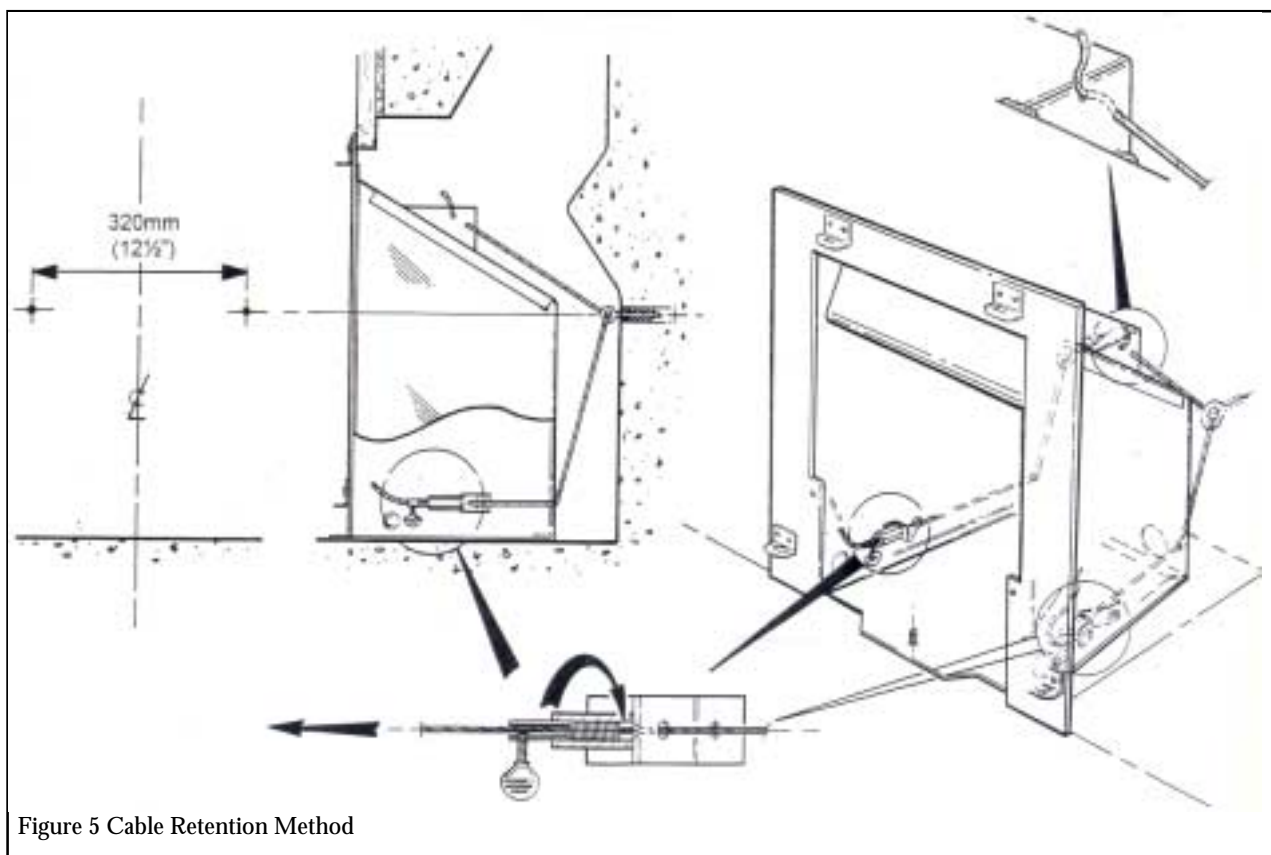

Figure 5 Cable Retention Method
**Cable Retention:** Cables and eyebolts are supplied for the retention of the appliance. Ensure that the internal fireplace components are sufficiently sound to take the eyebolts and wall plugs. Drill two holes in the rear wall of the fireplace for the eyebolt plugs using a No.10 masonry drill. The nominal position of the holes should be as shown in figure 5. The holes should be equidistant each side of the centre line of the fireplace to ensure that the appliance finishes centrally in the opening when tension is applied to the cables.
The convection box has two holes on each end of the debris deflector (see figure 5) Insert one end of each cable (one cable each side) from the back through the lower of the two holes and return the end through the upper of the holes as shown in figure 5c. Give the cables a pull so that they grip against the debris deflector flanges. **On no account should plastic wall plugs be used.**
Thread the cables through the eyebolts in the rear wall. Return the cables through the holes near the bottom of the convection box back panel and through the "V" shaped brackets near the bottom front sides of the convection box (see figure 5).
Pull each cable taut. Push the cable retainers hard up against the "V" brackets. Tighten the screws in the retainers so that they clamp the cables in position. Apply tension to the cables by turning the hexagonal adjusters by hand (see figure 5).